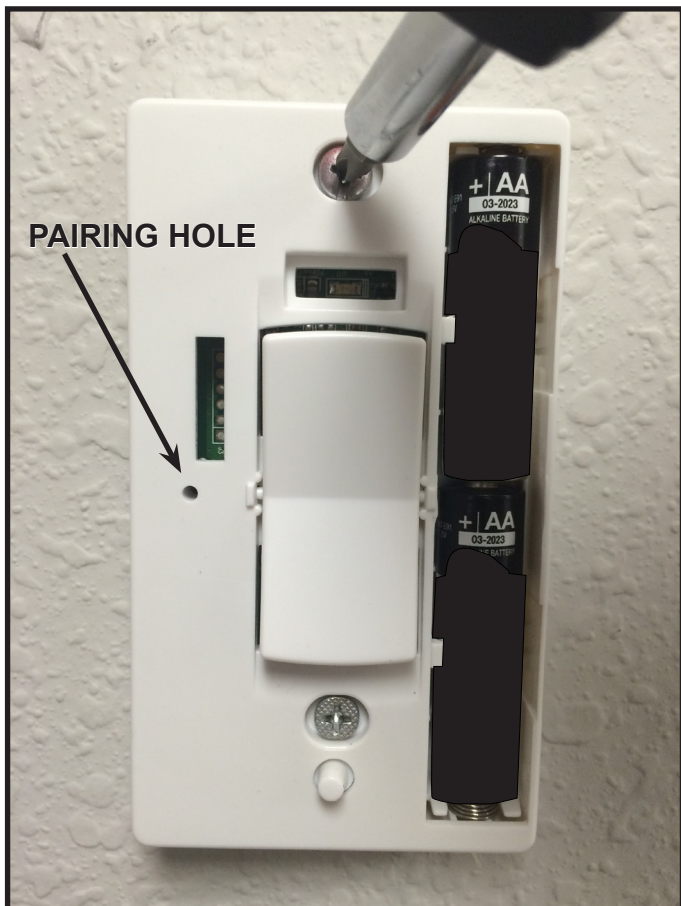

Figure 3 Mounting RC150U Wireless Wall Switch
4. Secure the wall switch on a flat wall surface using the two screws and drywall anchors provided. See Figure 3.
5. Insert the two AA alkaline batteries (supplied) in the correct orientation as marked in the battery receptacle. See Figure 3.
1. Remove the cover as shown in Figure 2 to access the pairing hole as shown in Figure 3.